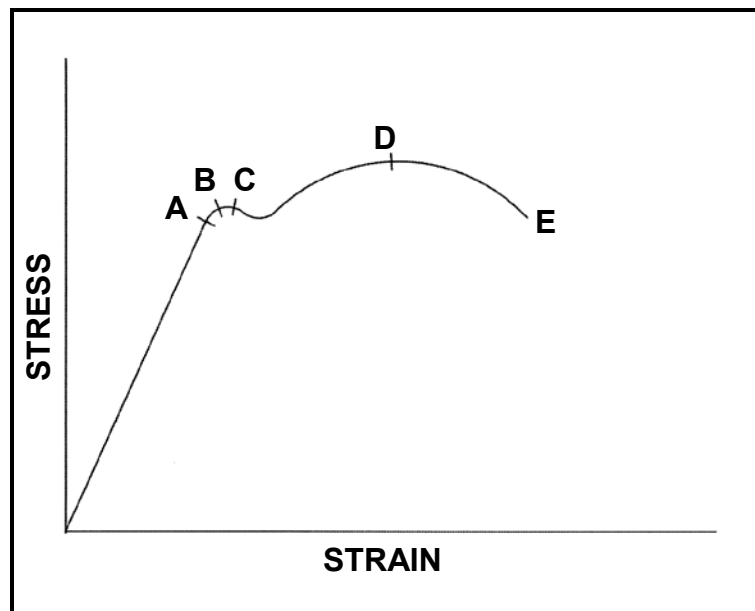

FIGURE 1.3
- 1.12 The graph in FIGURE 1.3, which compares the stress and the strain, is obtained when a mild steel specimen is subjected to a tensile test. What is represented by point E on the graph?